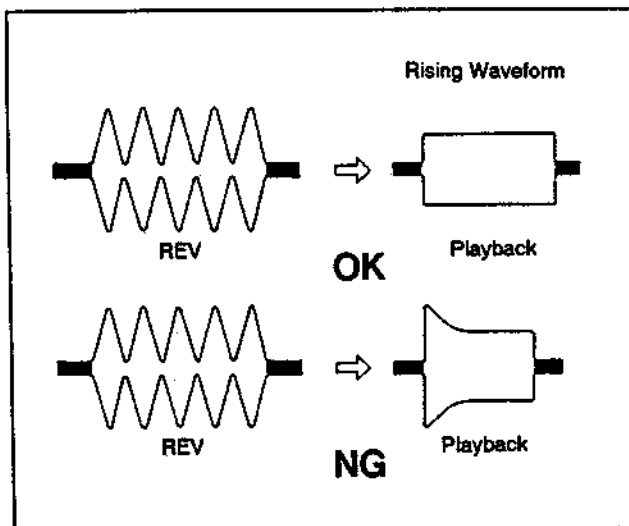

Fig. 40
- 6) If the waveform is not normal (Fig. 40), turn the upper flange ③ of the No. 2 guide (TG-2) ① 90° counterclockwise and repeat step 5.